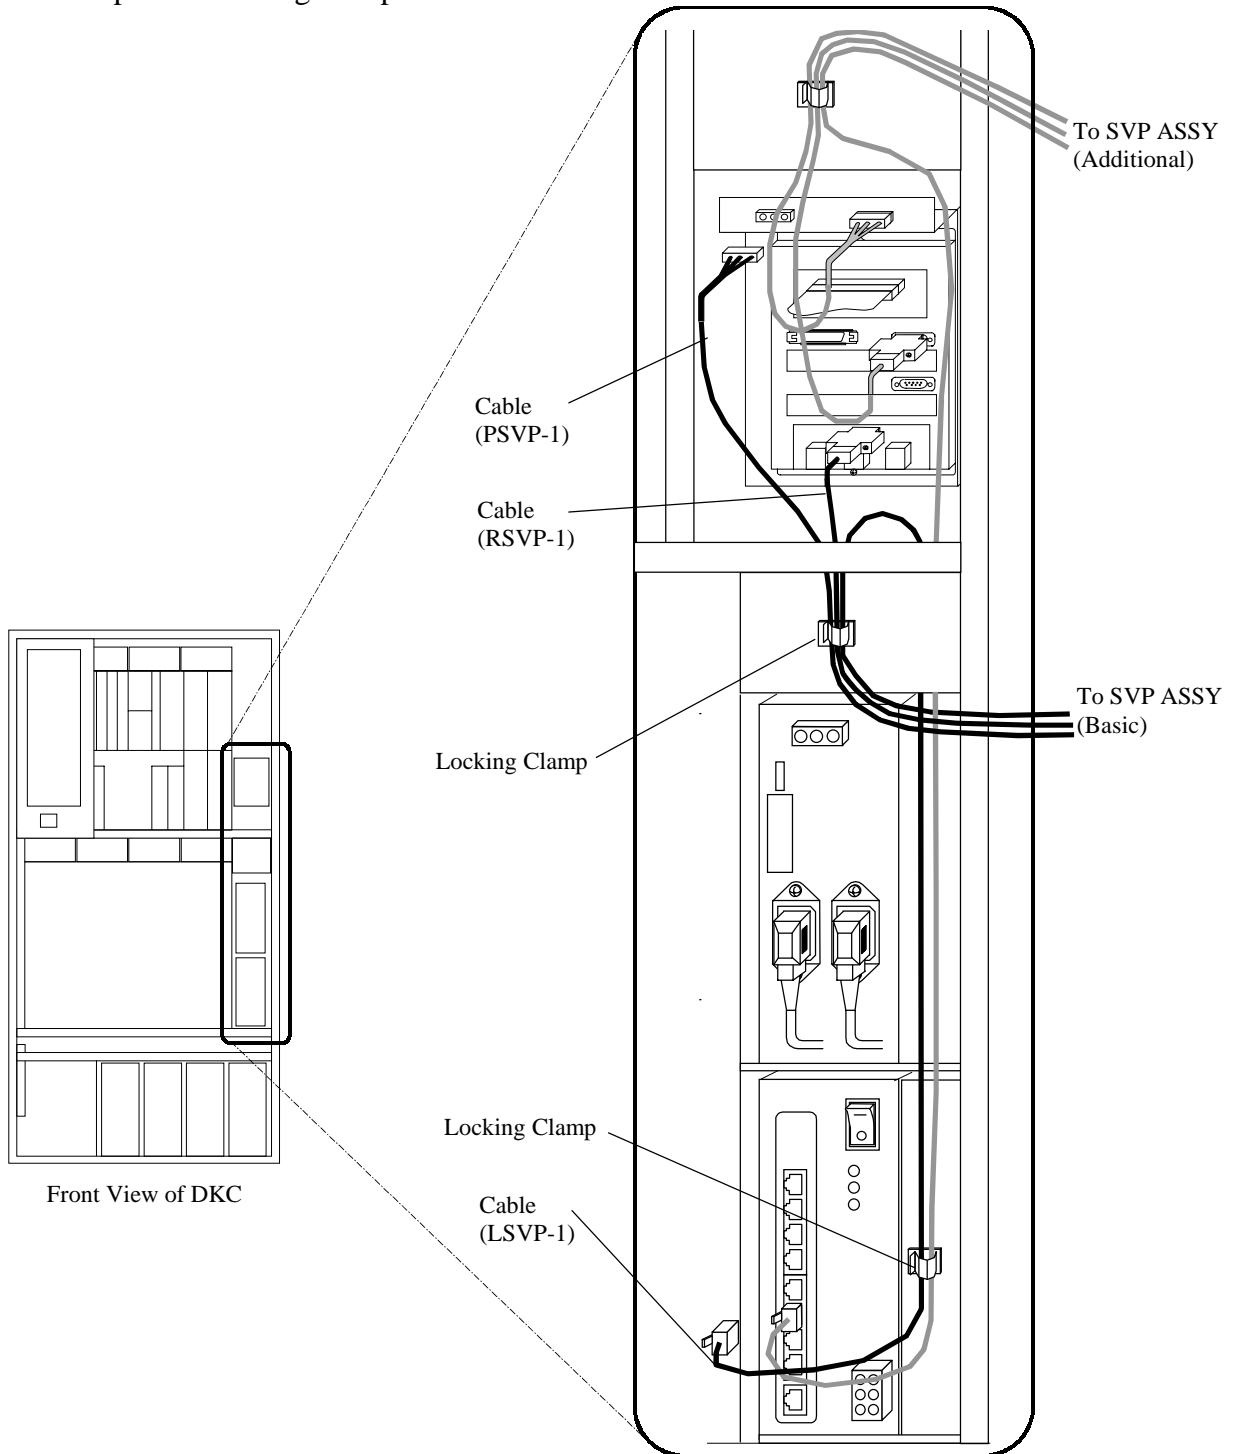

Fig. 4.9-6 Removal of Cables
- b. Attach the SVP ASSY cables to the RS CON PCB, HUB BOX and CON PLATE. And then close the locking clamps. (See Fig. 4.9-6 and 4.9-9.)